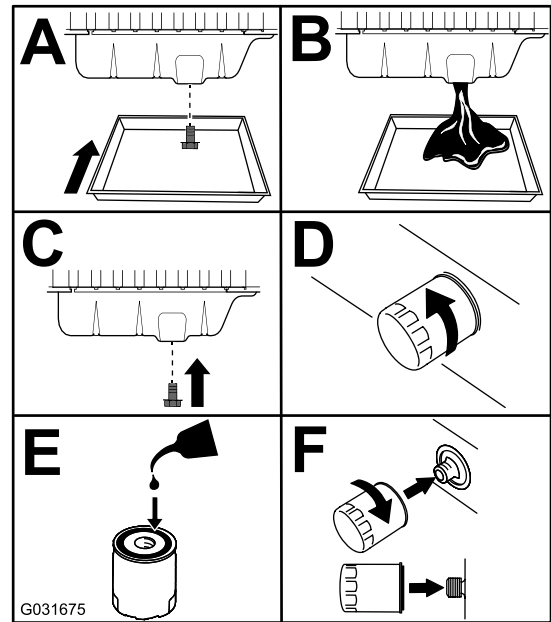

Figure 68
3. Replace the engine oil and filter (Figure 68).